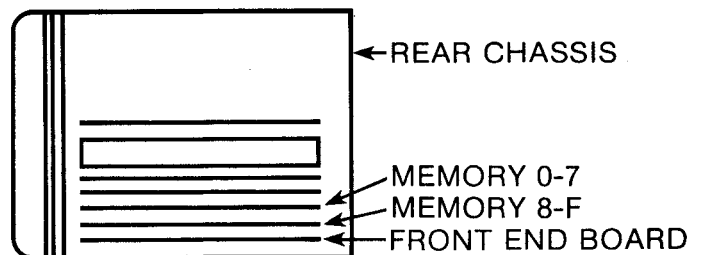

Figure 5.10 8-F Memory Location
Remove the "0-7" memory board (see Figure 5.10) and put on an extender. Turn the power on. Tests are performed using power up status mode.
5. Turn power off and return "0-7" memory to its chassis position. Repeat the process for "8-F" memory (see Figure 5.10). Use an input.